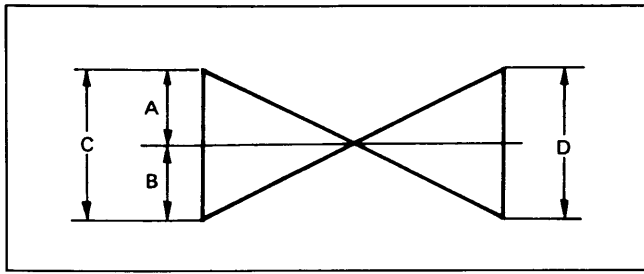

Fig. 31
- 17) Adjust H. Para waveform Adj. VR (R7484) so that the waveform  $A = B$  as shown in Fig. 31.
- 18) Confirm that the waveform  $C = D = 1.5V_{p-p} \pm 0.3V_{p-p}$  as shown in Fig. 31.